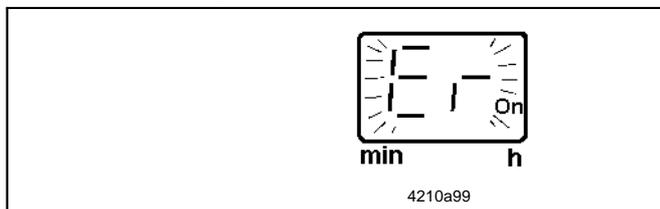

Fig. 24 Display of a fault indication
- If the operating cycle is not completed **within the maximum permissible time**, the flashing fault indication "Er" appears on the display of the membrane keypad (see Fig. 24, page 20). The QLS 301 does not start automatically anymore.
- If both indications (fig. 24 and 27) occur at the same time, then both displays * Er * and * LL * will flash.